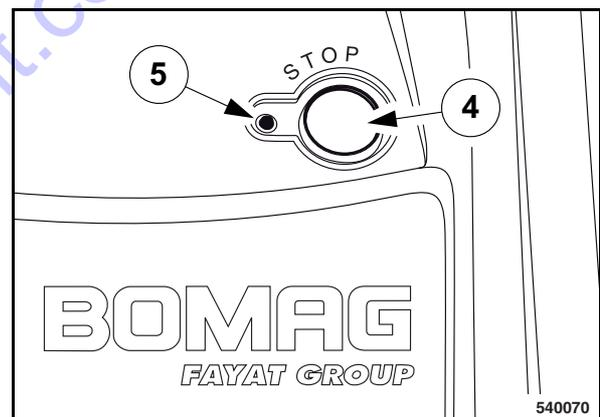

Fig. 8
If the oil level warning lamp (5) (Fig. 8) lights up when starting the engine, the oil level must be corrected, as otherwise the engine cannot be started.